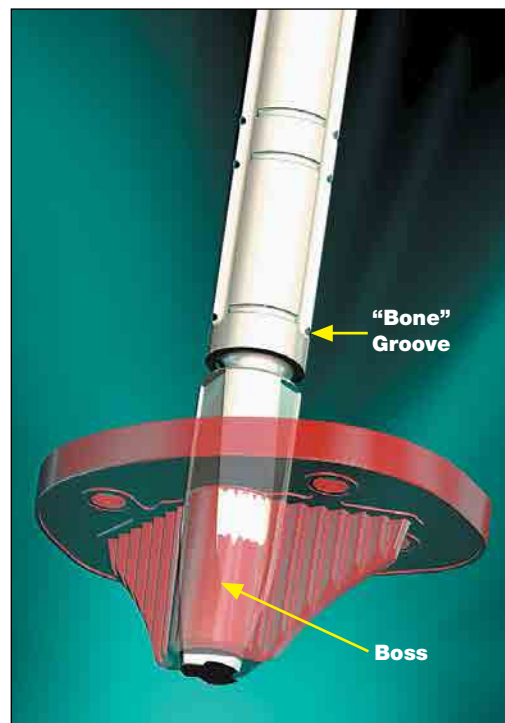

Figure 1A
*Note: If reamed stem diameter is less than 15mm use tibial offset reamer to prepare for implant boss. Ream to depth of bone groove on reamer's shaft (*Figure 1A*).*